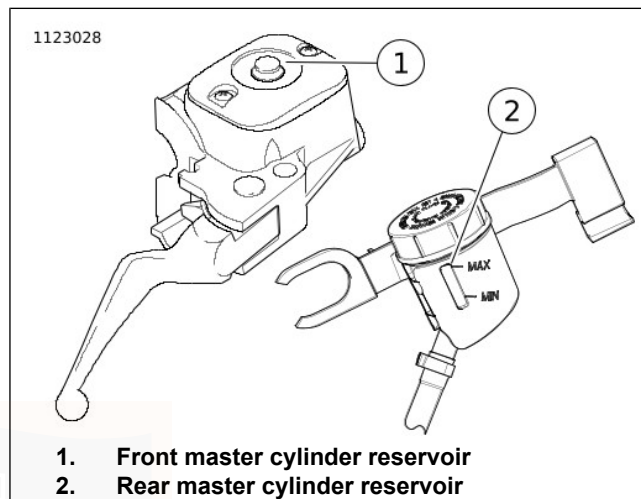
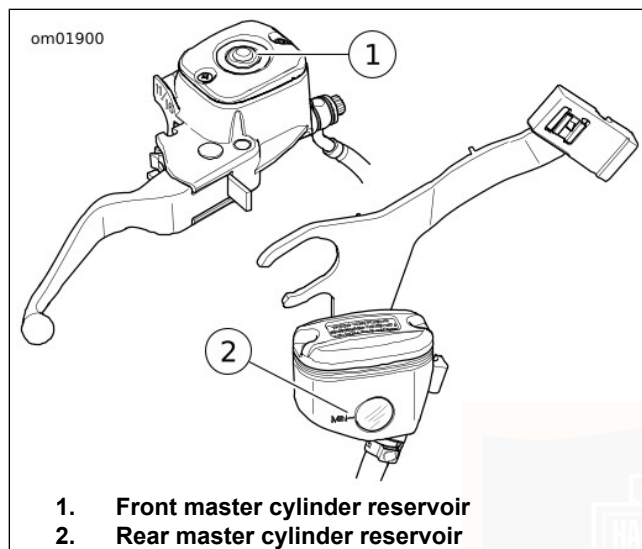

Figure 62. Brake Fluid Sight Glass: FLHTCUTG
Figure 63. Brake Fluid Sight Glass: FLRT
1. See Figure 62 and Figure 63. Check fluid level in brake master cylinder reservoir. Place vehicle on a flat level surface. Turn handlebar so master cylinder is level.